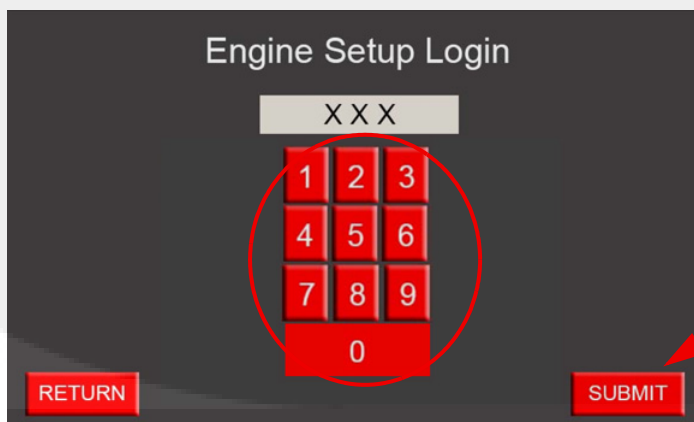

Figure 4-7 Typical Engine Setup Login screen
3. As shown in Figure 4-7, press the soft number keys to enter password “806” in the Engine Setup Login screen.